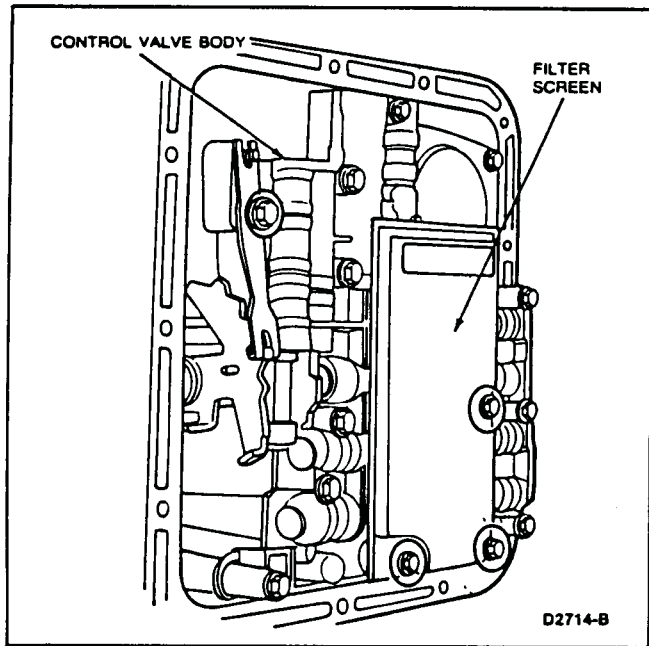

FIG. 8 Control Valve Body
Refer to Fig. 8.
4. Remove the oil filter screen and gasket (Fig. 8).
6. Remove the bolts from the control valve body (Figs. 8 and 9). While easing valve body out of